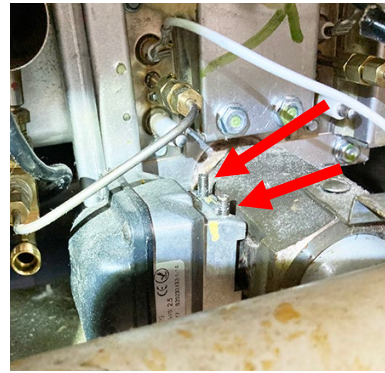

Figure 37
40. Loosen the two (2) 3/32" Allen screws on the actuator and slide the actuator off the drain valve (see Figure 37).